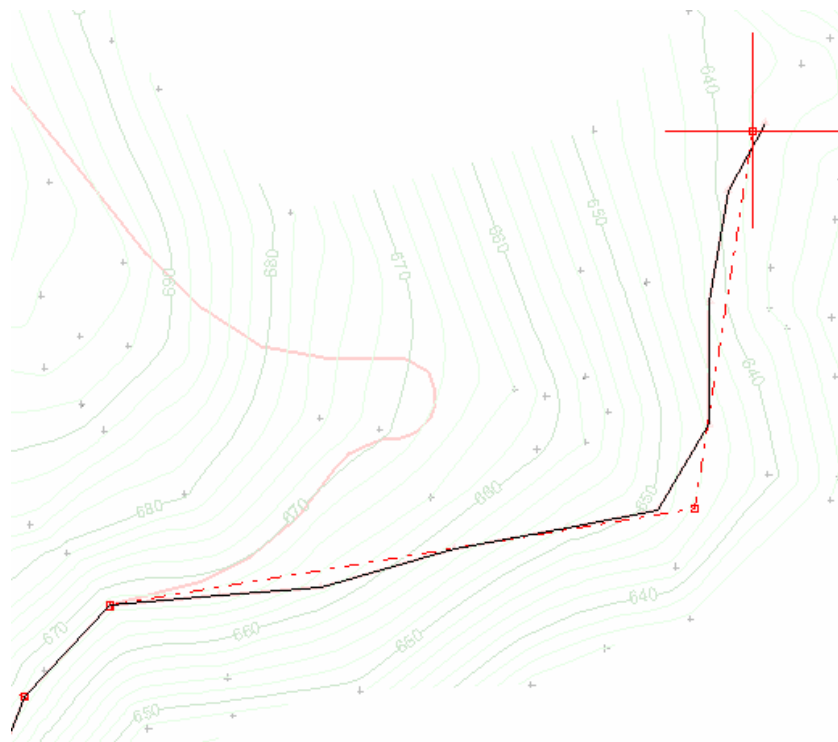

Figure 4.7: Plan View Showing New Tangents
5. Use the mouse (*Add/Edit IP Tool* cursor ) to create the tangents as shown in the Figure 4.7.